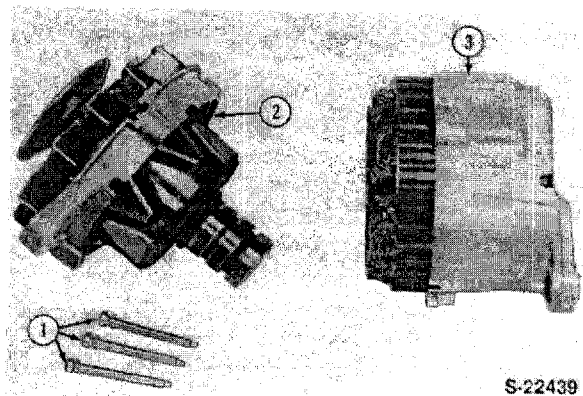

Figure 79
2. Remove the three through bolts, Figure 79. Pry between the stator and front bracket with blade of a screwdriver. Carefully separate the front bracket, pulley and rotor assembly away from the stator and rear bracket assembly.